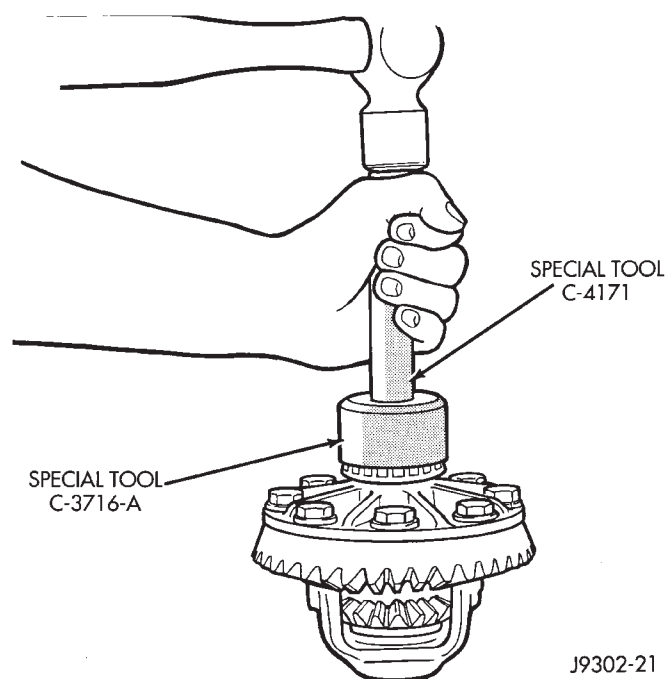

Fig. 60 Differential Bearing Installation
(8) Remove the master bearing tools from the differential case hubs.
(9) Position the backlash shims (with determined thickness) on case hub (ring gear side). Install bearing on the hub with Bearing Installer C-3716-A and Driver Handle C-4171 (Fig. 60).